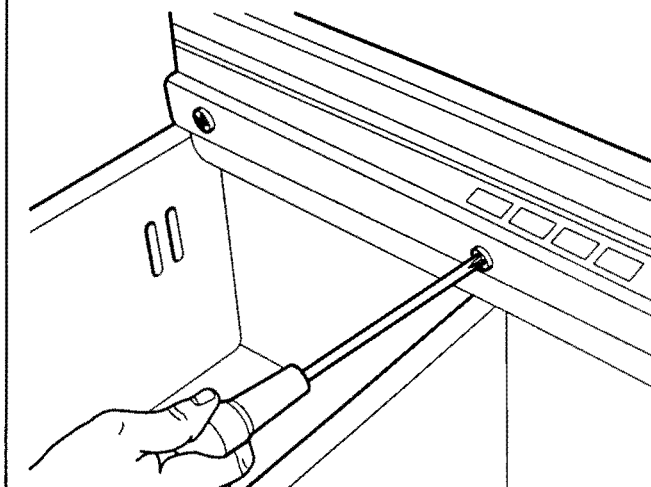

Figure 2-11. Control Panel Screws
1. Remove the three screws inside top drawer assembly (Figure 2-11). Then tilt control panel towards back of the drawer tub.